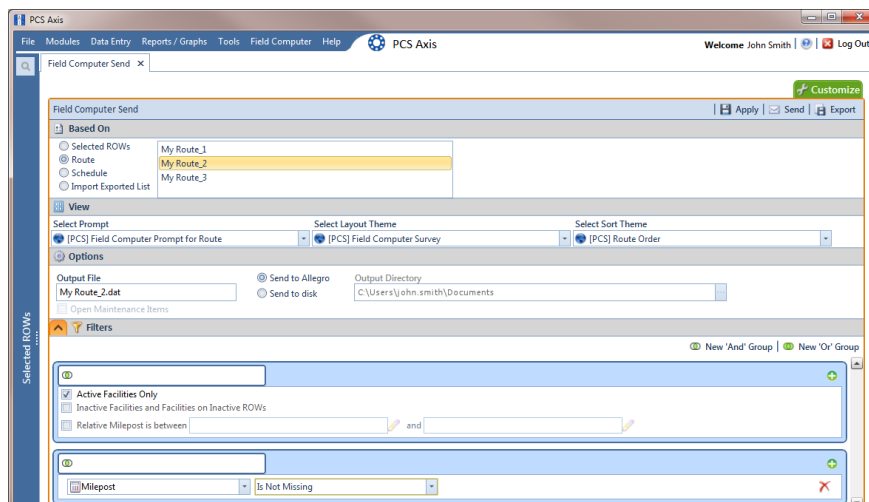

Figure 13-8. Filters
- b Select one or more options in *Filters* and then click  **Apply**. For example, click **Active Facilities Only** to only include active facilities in the grid and in the route sent to the Allegro (Figure 13-8).